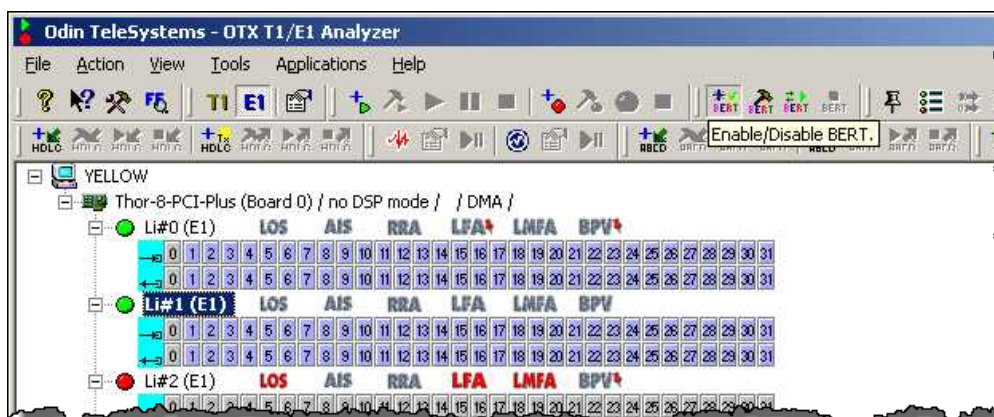

Figure 24 Enable BERT.
5. If both LED indicators (to the left of Li0 and Li1 in our example) are colored green, you can perform BERT testing. To do this set the "Li#0 (E1)" as the scope of operations and press "+BERT" icon on the toolbar ("Enable/Disable BERT." prompt) (See Figure 24).